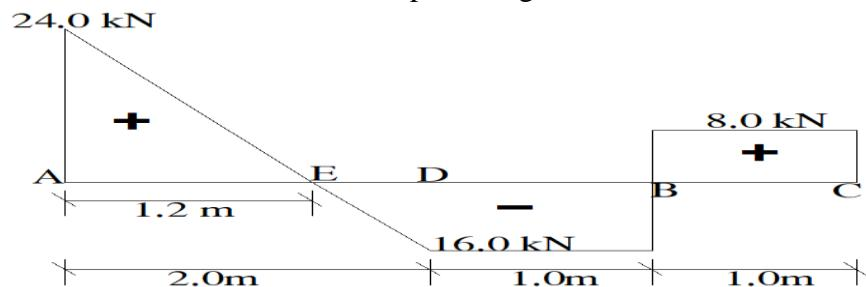

Figure 6
b) A beam ABC is simply supported at A and B. Supports A and B are at 3 m apart. The shear force diagram is as shown in the figure 6. Obtain the load diagram. Assume that there is no couple acting on the beam.